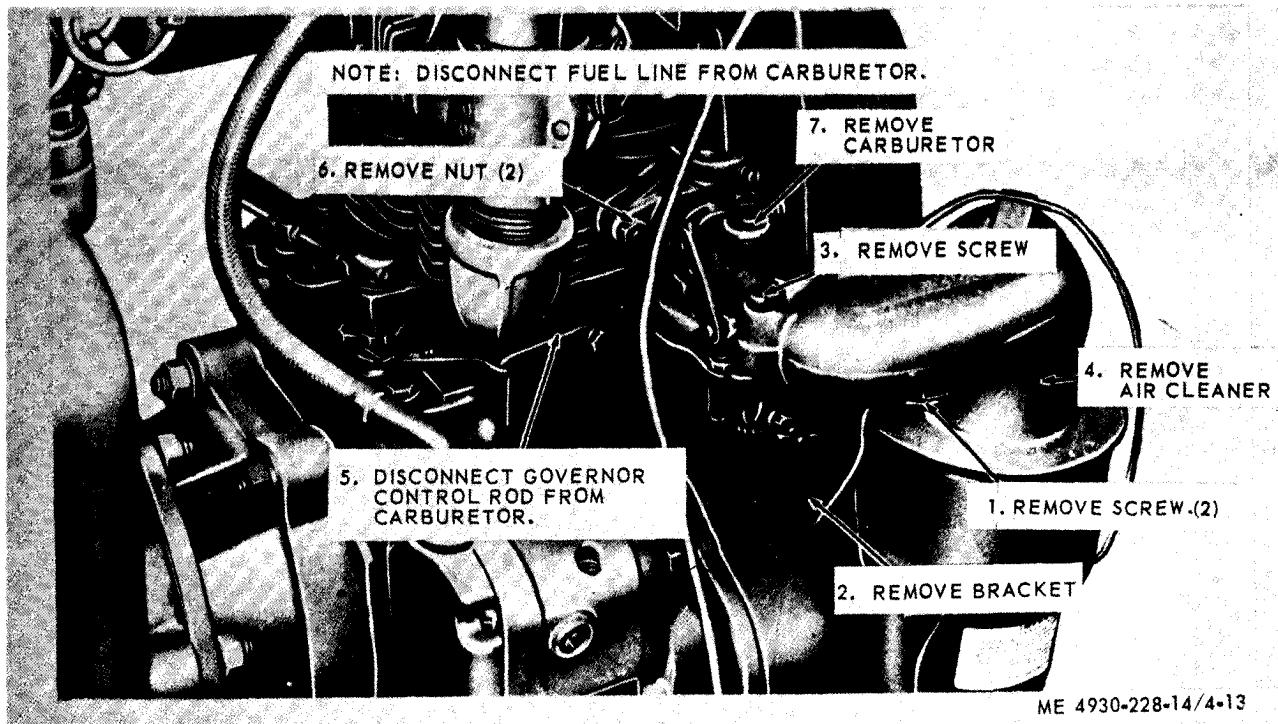

Figure 4-13. Air cleaner, bracket, and carburetor, removal.
a. *Removal.* Refer to figure 4-13 and remove the air cleaner and bracket.
- (1) Clean and dry all parts thoroughly.
- (2) Inspect the air cleaner for dents, distortion, cracks, and other damage.
- (3) Inspect the bracket for cracks and distortion.
- (4) Replace defective parts.
c. *Installation.* Refer to figure 4-13 and install the air cleaner and bracket. (Installation procedure is reverse of removal).
- (1) Remove the air cleaner (para 4-24).
- (2) Refer to figure 4-13 and remove the carburetor.
(1) Refer to figure 4-13 and install the carburetor. (Installation procedure is reverse of removal.)
(2) Install the air cleaner (para 4-24).